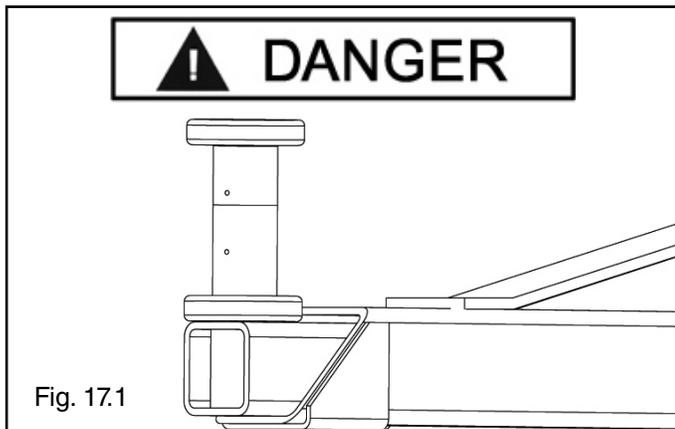

Fig. 17.1
- **ALWAYS** load vehicle on lift carefully. Position the lift adapters to contact at the vehicle manufacturer's recommended lift points. Raise lift until adapters contact vehicle. Check adapters for secure contact with vehicle. Raise lift to desired working height. (See Fig.17.1)